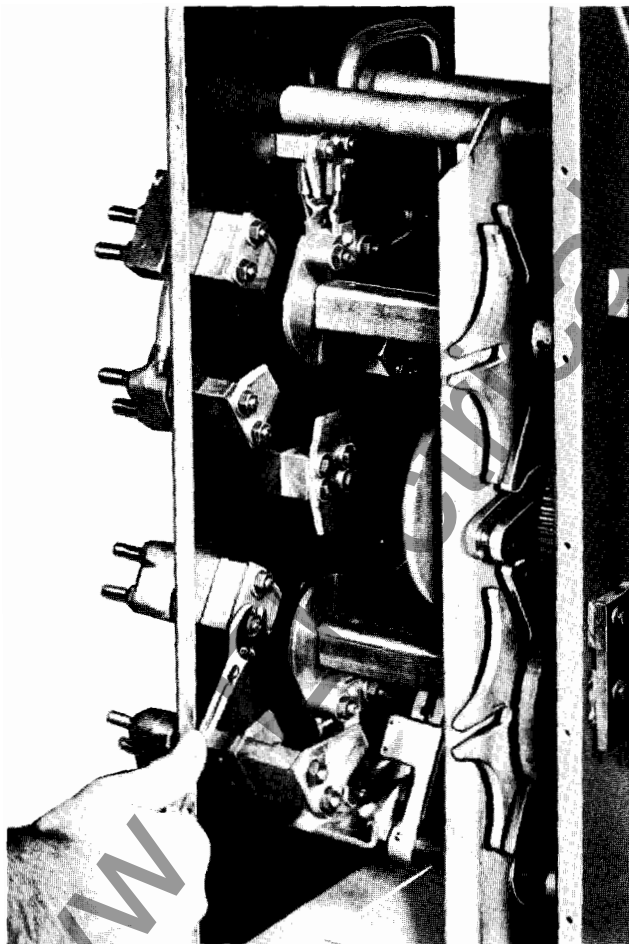

Fig. 18 - Removing Stationary Contact from URL Tap Changer
8. Remove the side panels from the tap changer to provide room enough to replace the arcing contacts. See Figures 18 and 19.